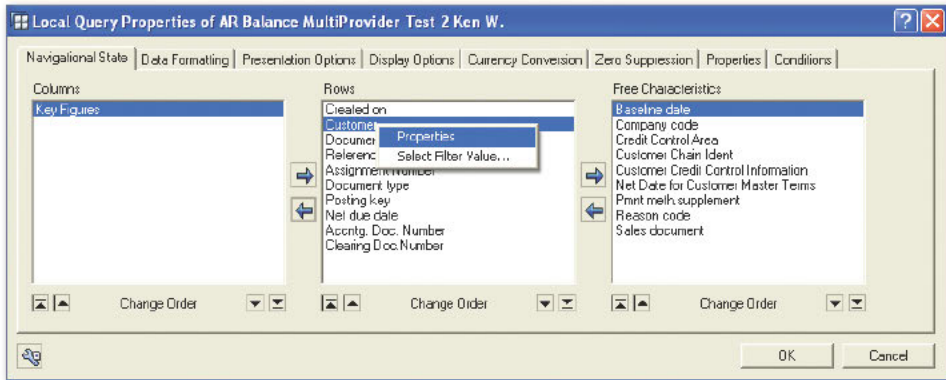

Figure 3 Filtering on an InfoObject with the Select Filter Value Option
3. Right-click on an InfoObject to then select or deselect attributes or apply report level filters (Figure 3).